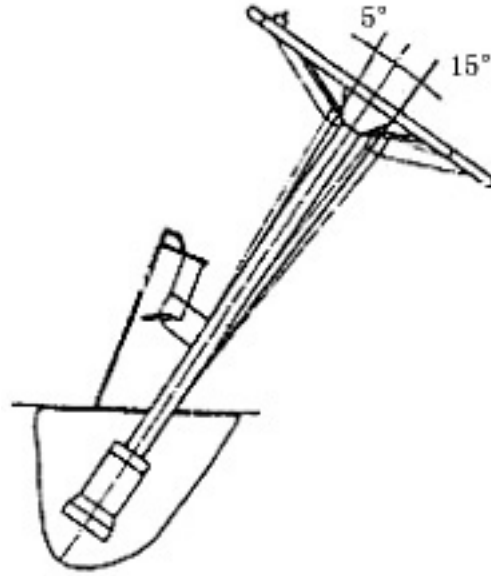
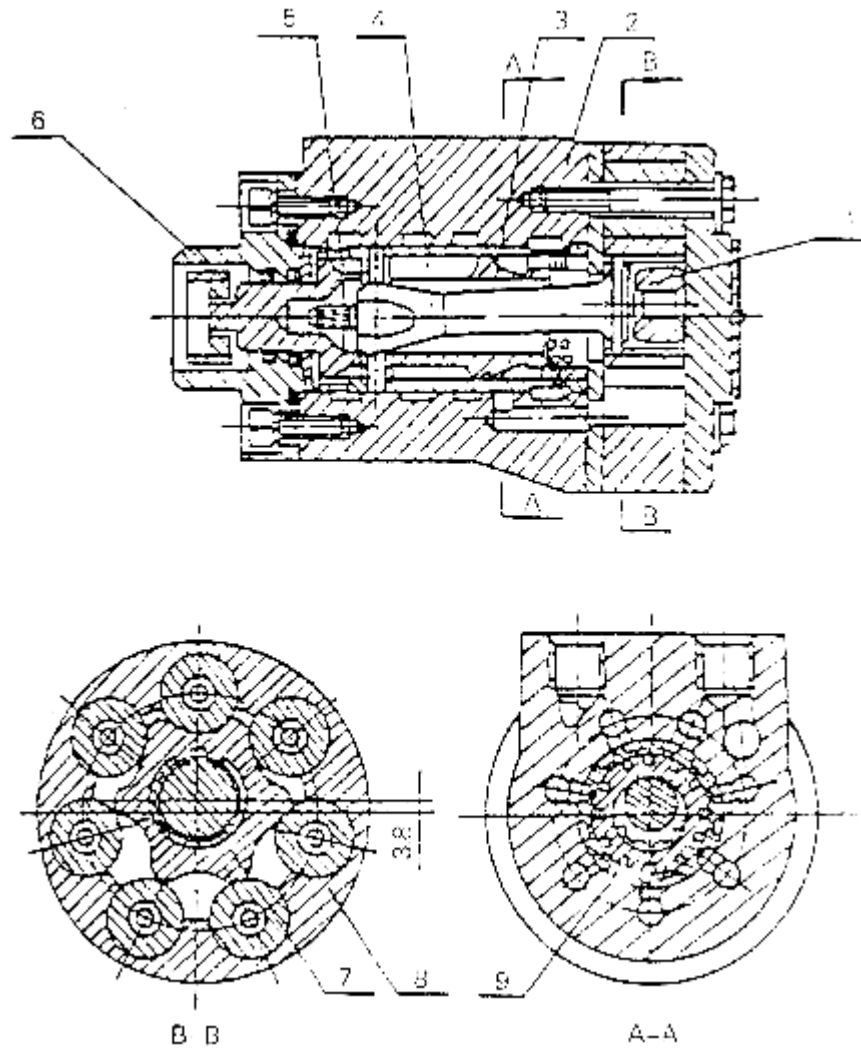

Fig 4-1 Steering gear
Fig 4-2 Cycloid Fully Hydraulic Steering Gear
##### (1) Steering gear (Figure 4-1)
The structure of the steering gear is shown in Figure 4-1, and it mainly includes cycloidal full hydraulic steering gear (see Figure 4-2), steering pipe column, connecting shaft and steering wheel; the steering pipe column and steering wheel can turn 5° forward and 15° backward to adapt to different needs of drivers; a horn button is arranged on the center of the steering wheel. The steering shaft through a universal joint is attached to the connecting shaft, and the connecting shaft is connected to the full hydraulic steering gear.